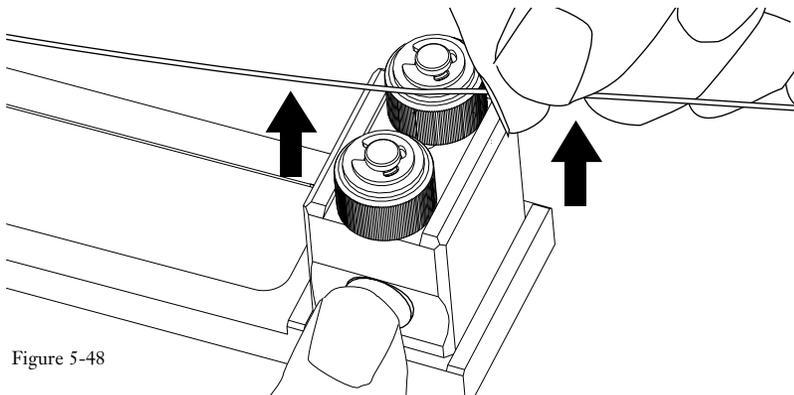

Figure 5-48
**5.8-7** Remove the fiber from the index rollers by pressing the release button and lifting it out (Figure 5-48).